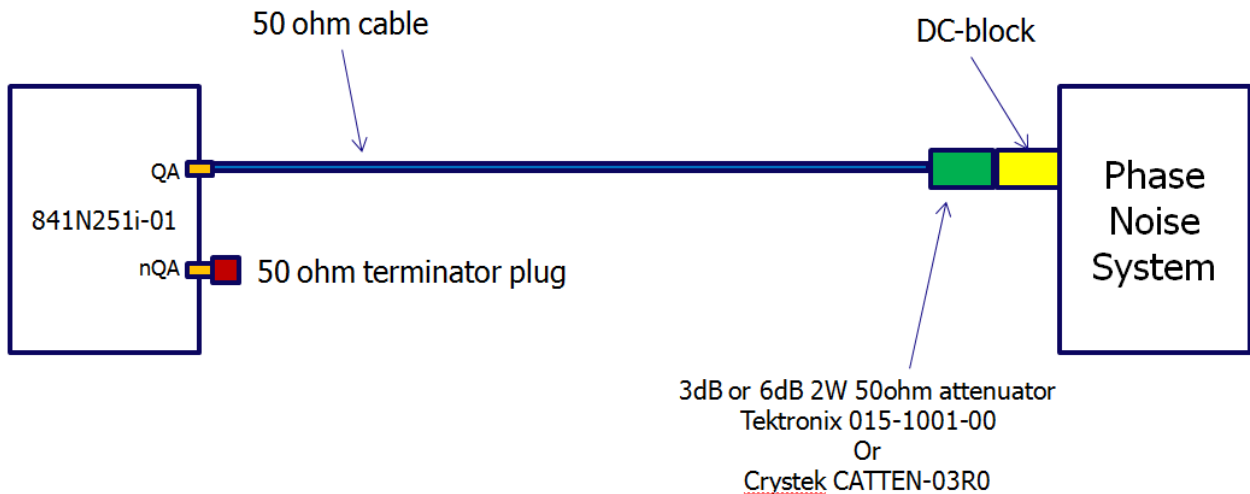

Figure 4. Single-Ended Setup for Phase Noise Measurement
- Figure 4. Single-Ended Setup for Phase Noise Measurement 3
Figure 4 shows the setup for a single-ended measurement. This setup, however, is susceptible to common-mode noise. If a signal has a lot of spurious content, or if there is common-mode noise present, this single-ended phase noise measurement will prove less effective than if a differential measurement is used. The single-ended measurement setup may be sufficient for an evaluation of the typical performance of the system.